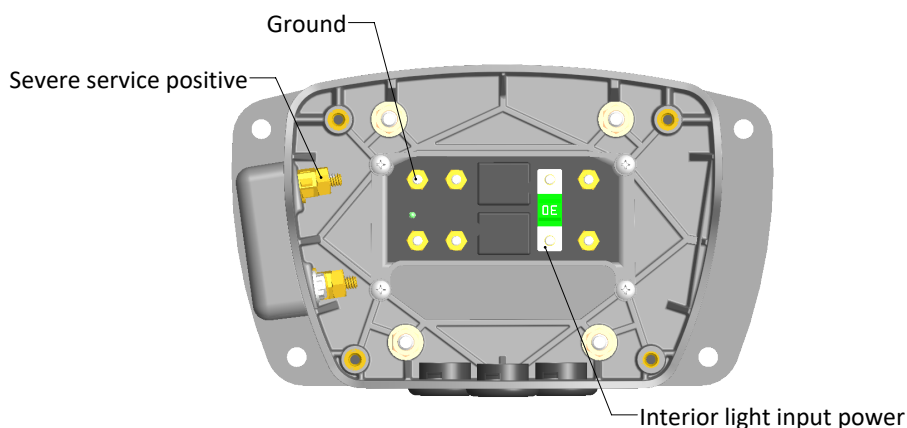

Figure 2
Step 1: Inside the nosebox, connect the severe service positive terminal to the interior light input power terminal (see Figure 2) using a 10 gauge wire.
Step 2: Terminate the Interior light positive wire with a #10 ring terminal and connect to the Interior light input power (see Figure 2).
Step 3: Terminate the Interior light negative wire with a #10 ring terminal and connect to Ground (see Figure 2).